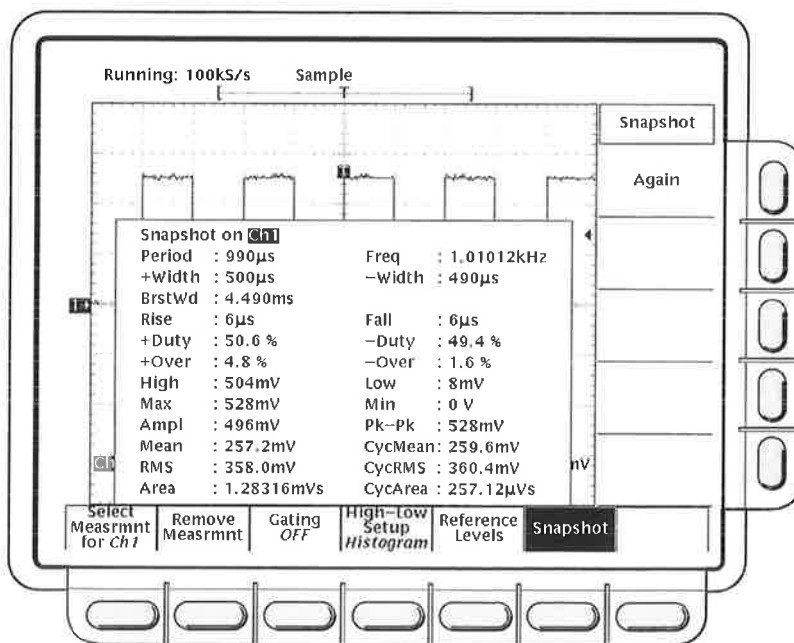

Figure 1-17: Snapshot of Channel 1
1. Press **Snapshot** (main) to pop up a snapshot of all available single waveform measurements. (See Figure 1-17).